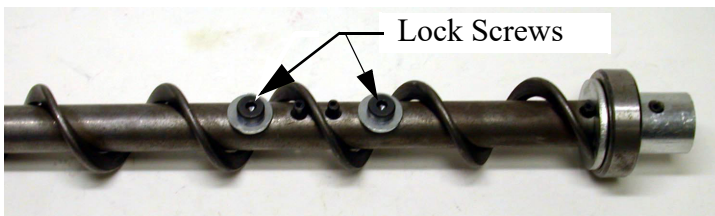

Figure 84. Auger and anchor Bearing Connection
1. Insert the Anchor Assembly into the auger until it touches the washer at the back of the anchor. Tighten the setscrews in the center of the anchor until they touch the auger, then tighten a maximum of 1/2 turn. See **Figure 84**.